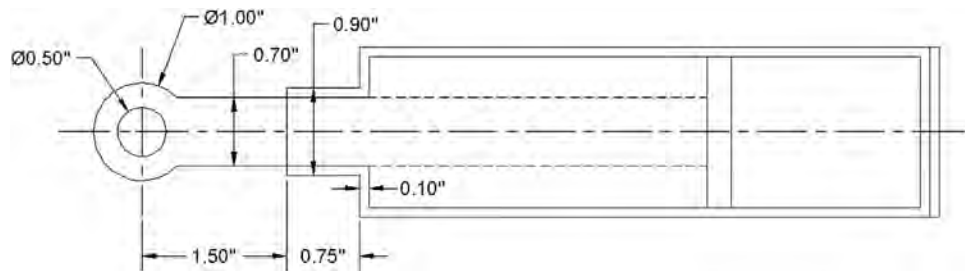

FIGURE 8.29
Step 9. Continue adding the basic geometry to the side view, as well as hidden and centerlines, as shown in Figure 8.29. Set LTSCALE to .4.